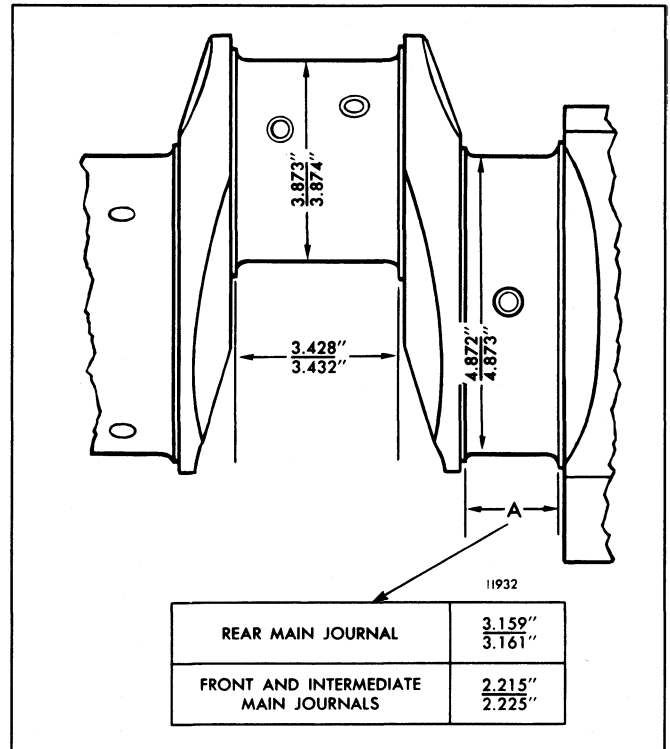

Fig. 4 - Dimensions of Crankshaft Journals
Measure all of the main and connecting rod bearing journals (Fig. 4). Measure the journals at several places on the circumference so that taper, out-of-round and bearing clearances can be determined. If the crankshaft is worn so that the clearance with new connecting rod bearing shells or new main bearing shells exceeds .0045" and .0062" respectively, the crankshaft must be reground. Measurements of the crankshaft should be accurate to the nearest .0002". Also, if the journal taper of a used crankshaft exceeds .0015" or the out-of-round exceeds .0010", the shaft must be reground.
1. Compare the crankshaft journal measurements taken during inspection with the dimensions in Table 2 and Fig. 4 and determine the size to which the journals are to be reground.